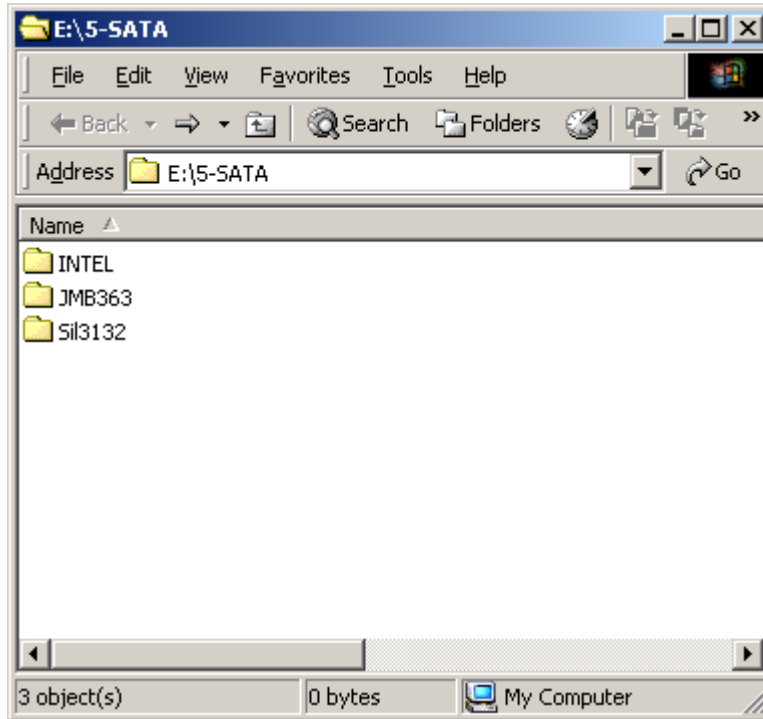

Figure 7-33: SATA RAID Driver Installation Program
Step 2: A new window opens (Figure 7-33).